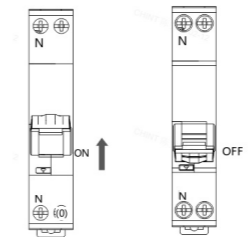

Fig. 2 ON and OFF Status Indication
5.1 Before installation, check whether the RCBO marking is consistent with the working conditions used; the ON and OFF status indication is shown in Figure 2 below.